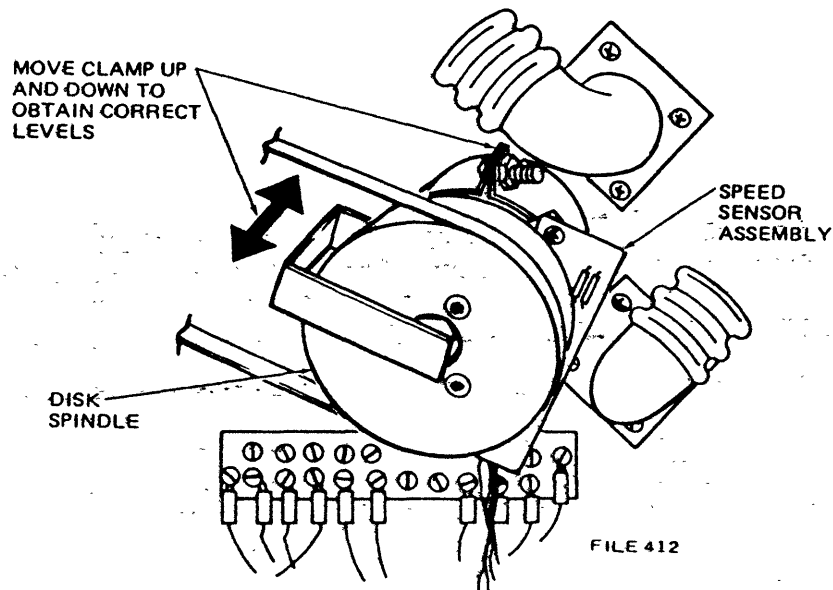

Figure 20-12. Speed Sensor
- o. Loosen the speed sensor adjustment screw (Figure 20-12).